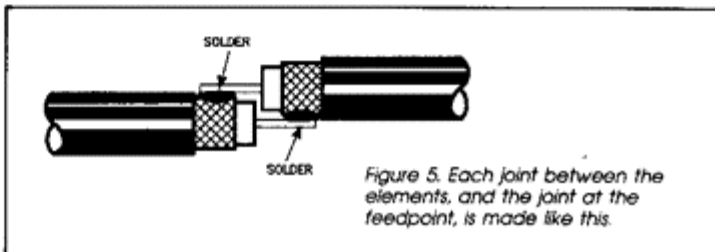

Figure 5. Each joint between the elements, and the joint at the feedpoint, is made like this.
8) Now to solder the elements together. First slip a 35-40mm length of 9.5mm or 12.7mm diameter heatshrink on each element. Solder the elements together, end to end, as shown in Figure 5. With each joint, after it has cooled, apply silicone sealant to the area of the joint to seal it, then, while the silicone is still plastic, slip the heatshrink tubing over the joint and apply a blast of hot air (hair driers are great for this). But don't overdo the hot air, though, or you're likely to soften the outer sheath of the coax and possibly damage it.
13) Now attach the prepared cable to the feedpoint, making a joint as per Figure 5. Seal it and cover it with heatshrink. Put a tie either side of the